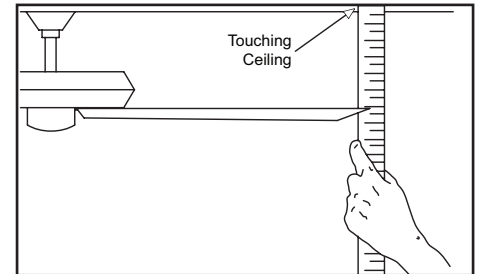

Figure 16
2. Most fan wobble problems are caused when blade levels are unequal. Check this level by selecting a point on the ceiling above the tip of one of the blades. Measure this level by selecting a point on the ceiling above the tip of one of the blades. Measure from a point on the center of each blade to the point on the ceiling. Measure this distance as shown in Figure 16. Rotate the fan until the next blade is positioned for measurement. Repeat for each blade. Measurements deviation should be within 1/8". Run the fan for 10 minutes.